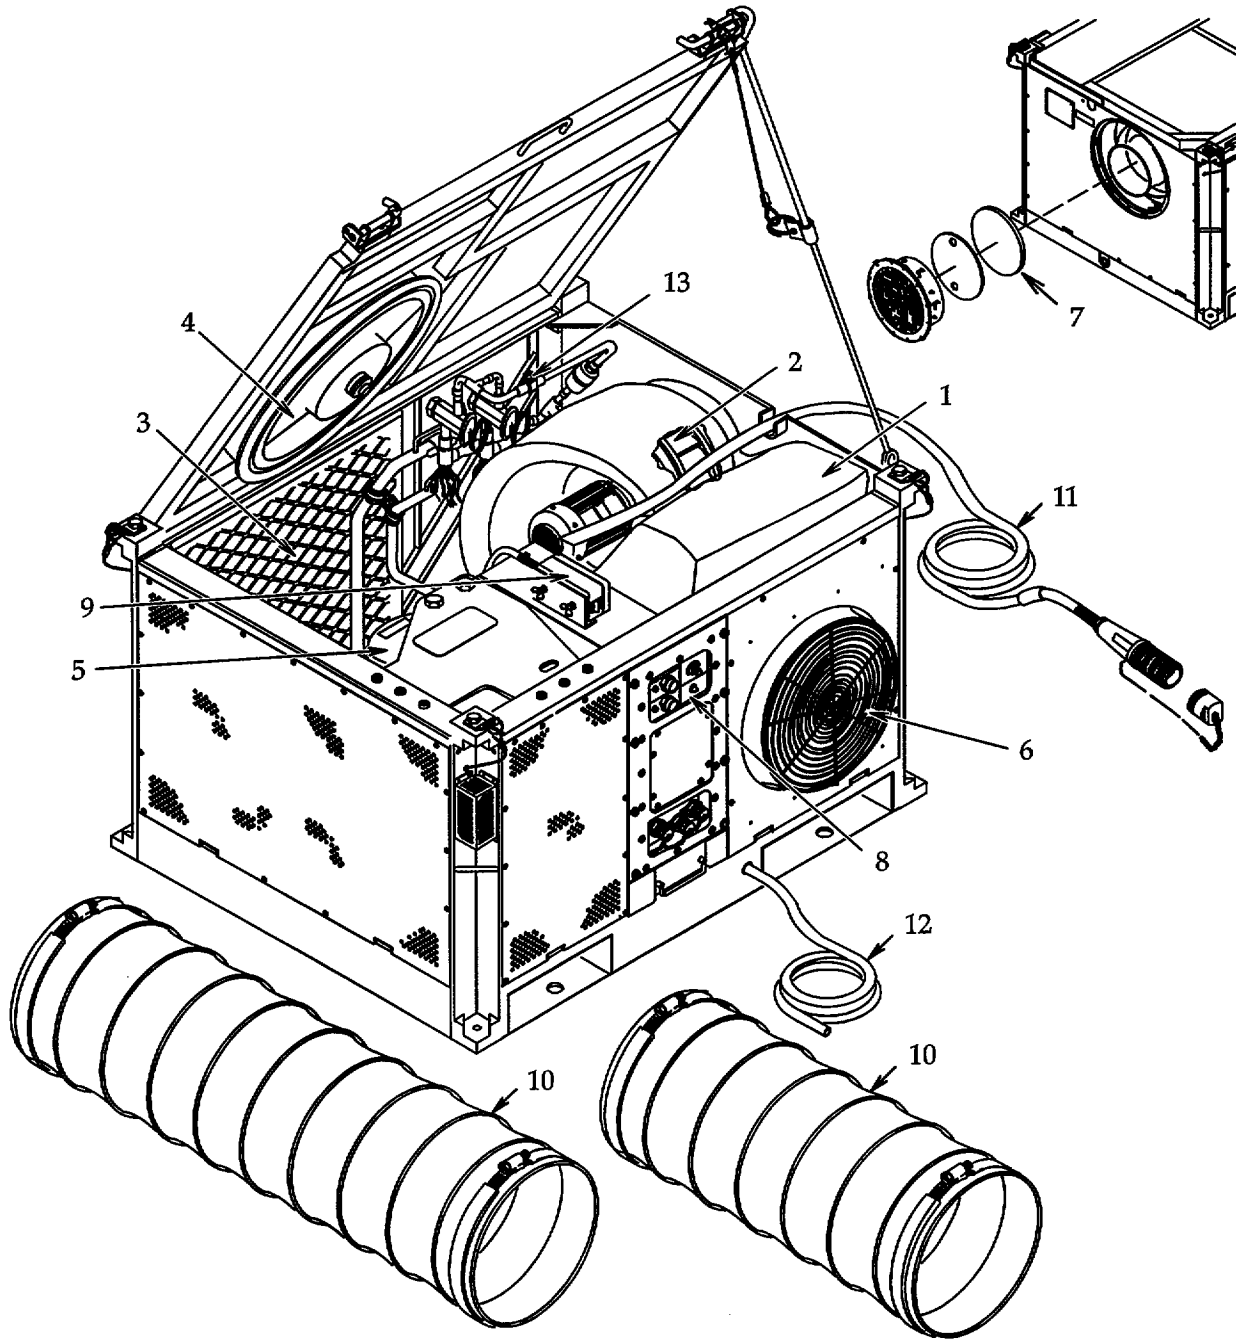

Figure 1-3. Major Components
1.12 LOCATION AND DESCRIPTION OF MAJOR COMPONENTS. Refer to figure 1-3.